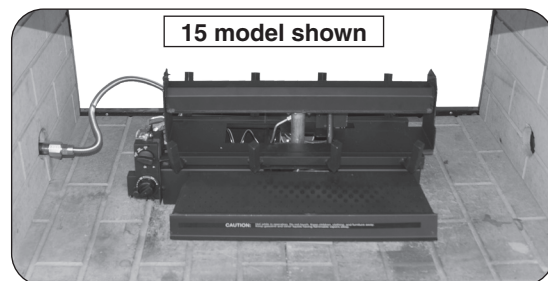

Fig. 15-2 Center burner in fireplace
3. Place the burner system in the fireplace. Center the burner in the fireplace. See Fig. 15-2.